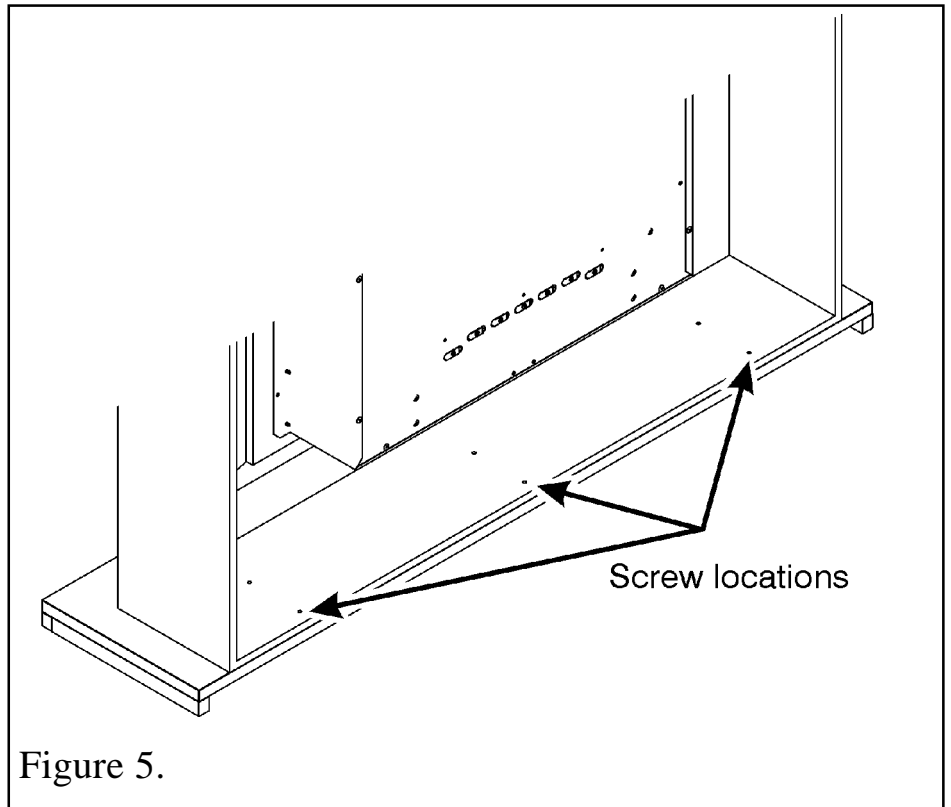

Figure 5.
1. The surround has six holes in its base. The top surface of the plinth has six pilot holes. Place the surround onto the plinth ensuring that the six holes are in line. Secure the surround to the plinth using six screws supplied (See figure 5).